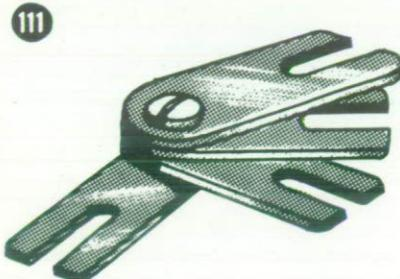

Fig. 35
The loop lift is adjusted in the left hand stitch position using the so-called loop lift gauge N 32 NU 6 (111) Fig. 35. Set left hand stitch,